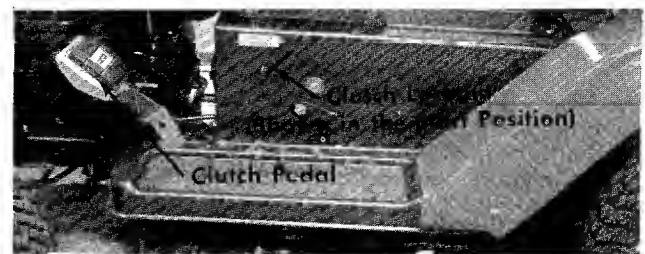

FIGURE 8. LEFT HAND CONTROLS
e. **Clutch Pedal.** The clutch pedal is used to disengage the drive mechanism. Depressing the clutch pedal at any time will slow you down or, if depressed all the way, will stop the mower. See figure 8.
f. **Clutch Lockout.** When the clutch pedal is depressed all the way it can be locked by placing the clutch lockout in the START position as shown in figure 8. The clutch lockout must be in this position before the engine will start.
Step 2. Place the clutch lockout in the START position. See figure 8.